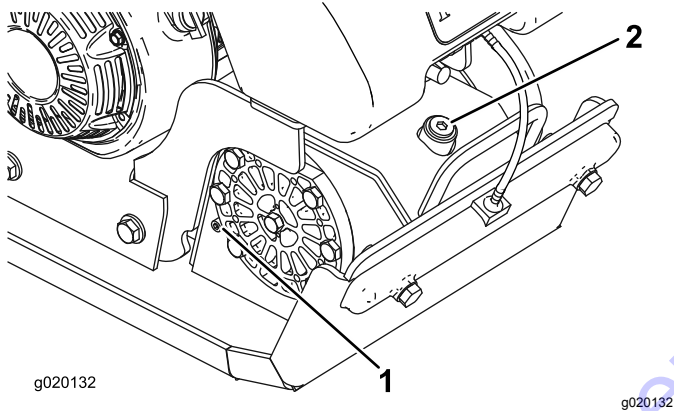

Figure 23
2. Place a drain pan under the oil plug and remove the oil-plug screw on the side of the eccentric housing (Figure 23).
2. Place an oil drain pan under the oil plug and remove the fill plug and the oil plug screw (Figure 23).
3. Tip the plate compactor forward slightly and use a suction gun to remove the oil through the filler hole (Figure 23).
4. Slowly pour oil into the filler hole until the oil comes out the oil plug (Figure 23).